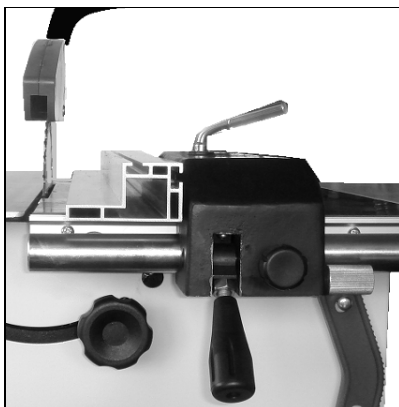

Fig 22
-The cutting of small work pieces (width less than 120mm) shall only be performed with the rip fence profile placed flat (Fig 22).